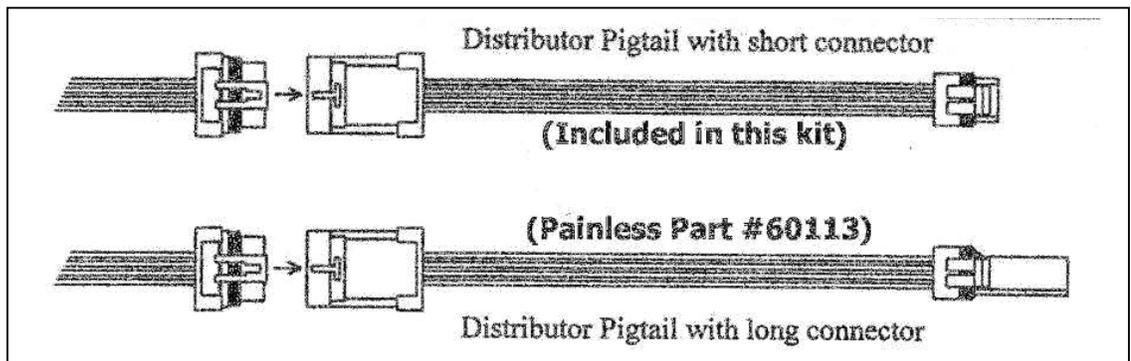
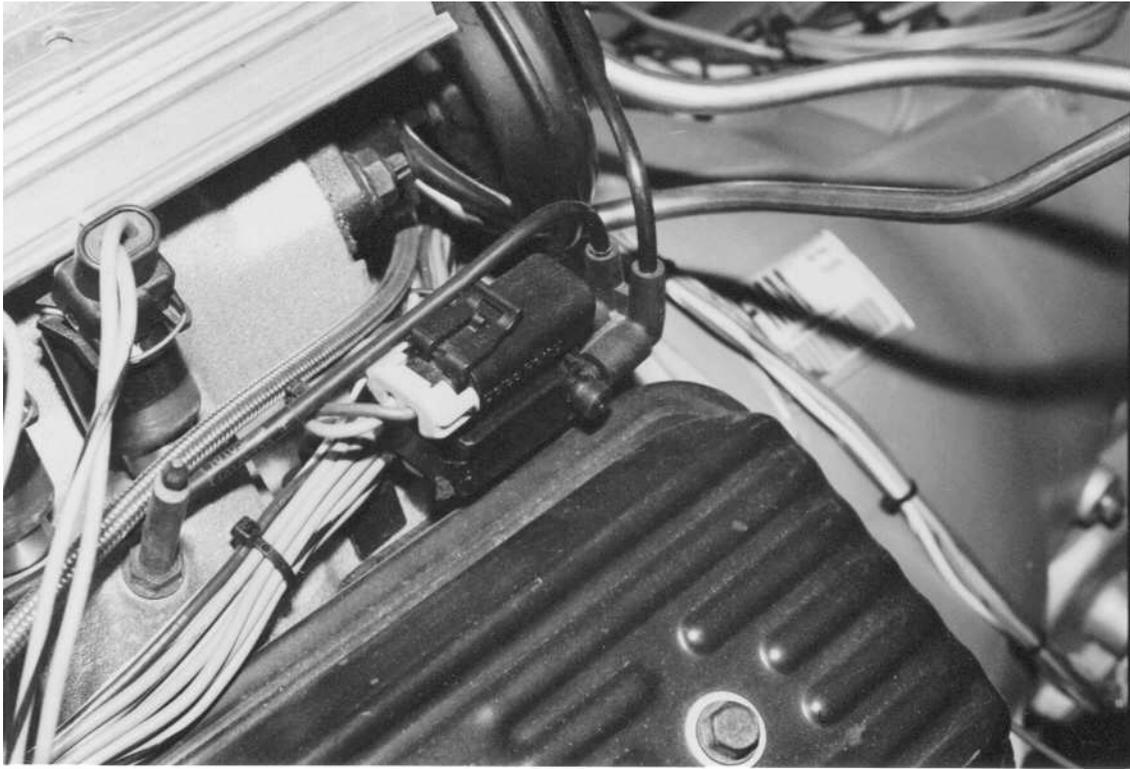

Figure 6.5 Distributor Pigtail
Figure 6.16 EGR Solenoid
- 6.3.4** Check to make sure that the 60501 or 60504 wire harness has the correct distributor connector (shown in **Figure 6.16**) on it for your particular engine. There are two different distributor connectors used with the LT-1 engine. The 92 & 93 used the short connector (1") and the 94 & up used the long connector (2"). See **Figure 6.5**, Part #60113. The 60501 and 60504 harnesses have the short connector on them, but if you have the original factory distributor pigtail that came with your engine you can unplug the one on the 60501 or 60504 harness and plug yours on. If you need the distributor pigtail with the long connector call Painless Performance at 800-423-9696 or e-mail: tech@painlessperformance.com.